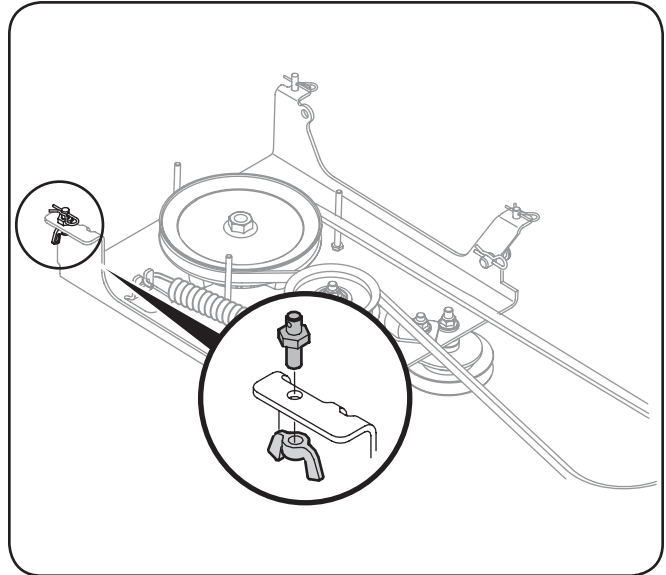

Figure 3-5
1. If you have a 700 series tractor, remove the pin and wing nut or hex nut at the right rear of the undercarriage assembly before installing the undercarriage onto your tractor. See Figure 3-5.